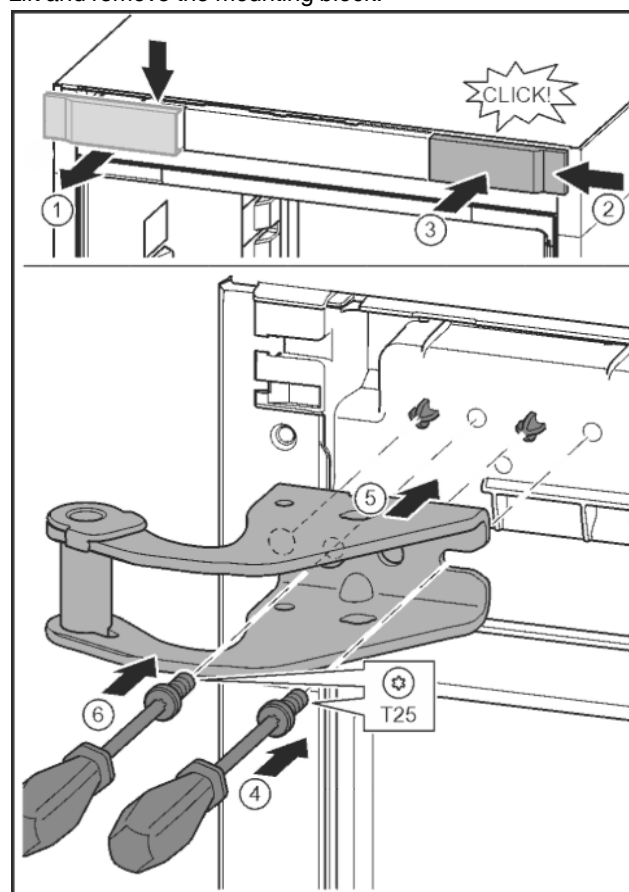

Fig. 9
- Release the cover and remove from the side. Fig. 9 (1)
- Rotate the cover 180° and clip onto the other side from the right. Fig. 9 (2)
- Click the cover into place. Fig. 9 (3)
- Position the screw with a T25 screwdriver. Fig. 9 (4)
- Position the upper bearing bracket. Fig. 9 (5)
- Tighten the screw. Fig. 9 (4)
- Insert the screw with a T25 screwdriver and tighten. Fig. 9 (6)